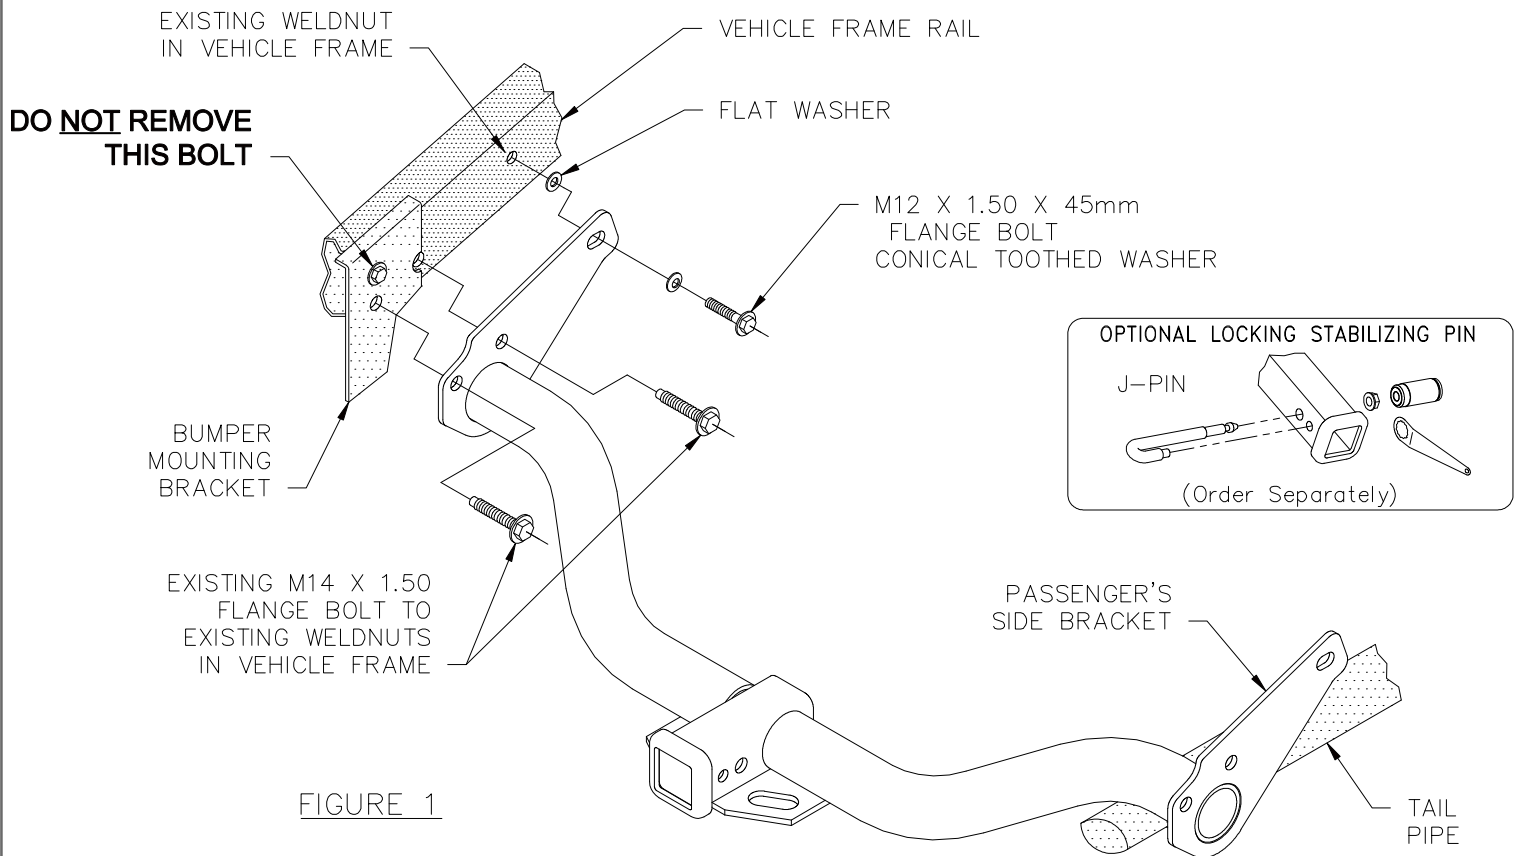

FIGURE 1
2. REMOVE (2) M14 BOLTS, EACH SIDE WHICH ATTACH BUMPER MOUNTING BRACKETS TO FRAME (SEE FIGURE 1). RETAIN BOLTS FOR HITCH INSTALLATION.